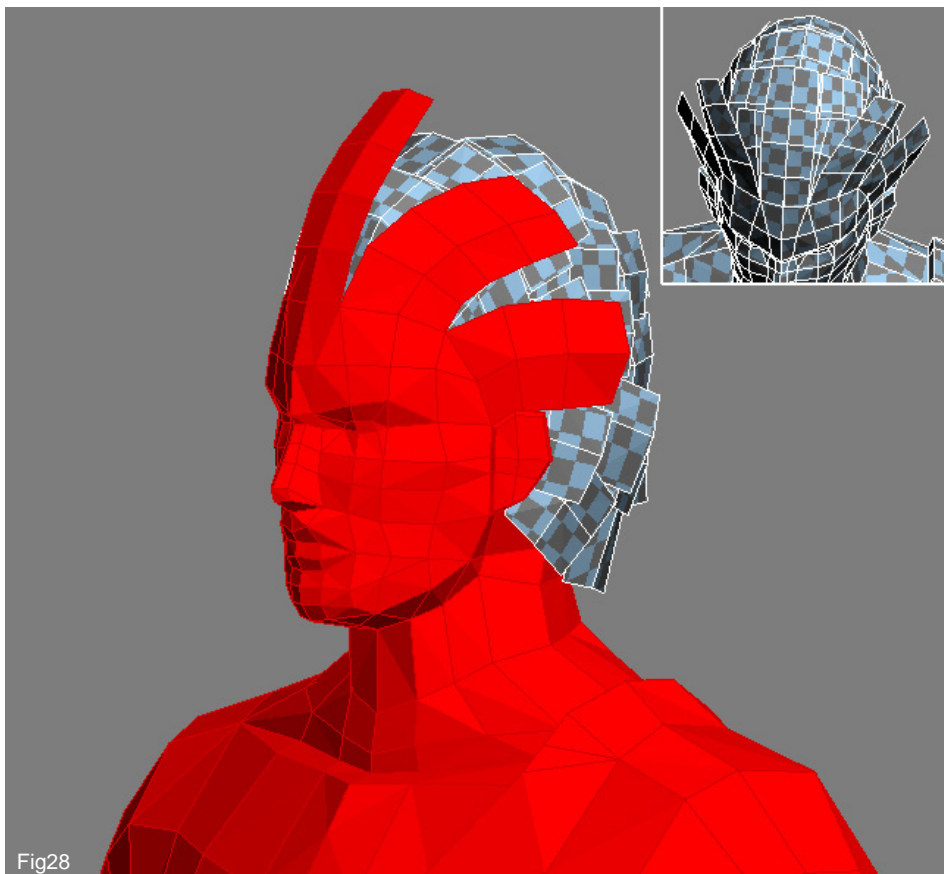

Fig28
28. When the hair section is mapped you can attach the front three sections to the main body as shown in red in Fig 28 but leave the rest of the hair pieces as separate objects; the reason for which shall be revealed next. Select the main body and apply an Unwrap UVW and then move the three front hair pieces in line with the top of the forehead, scaling them accordingly.